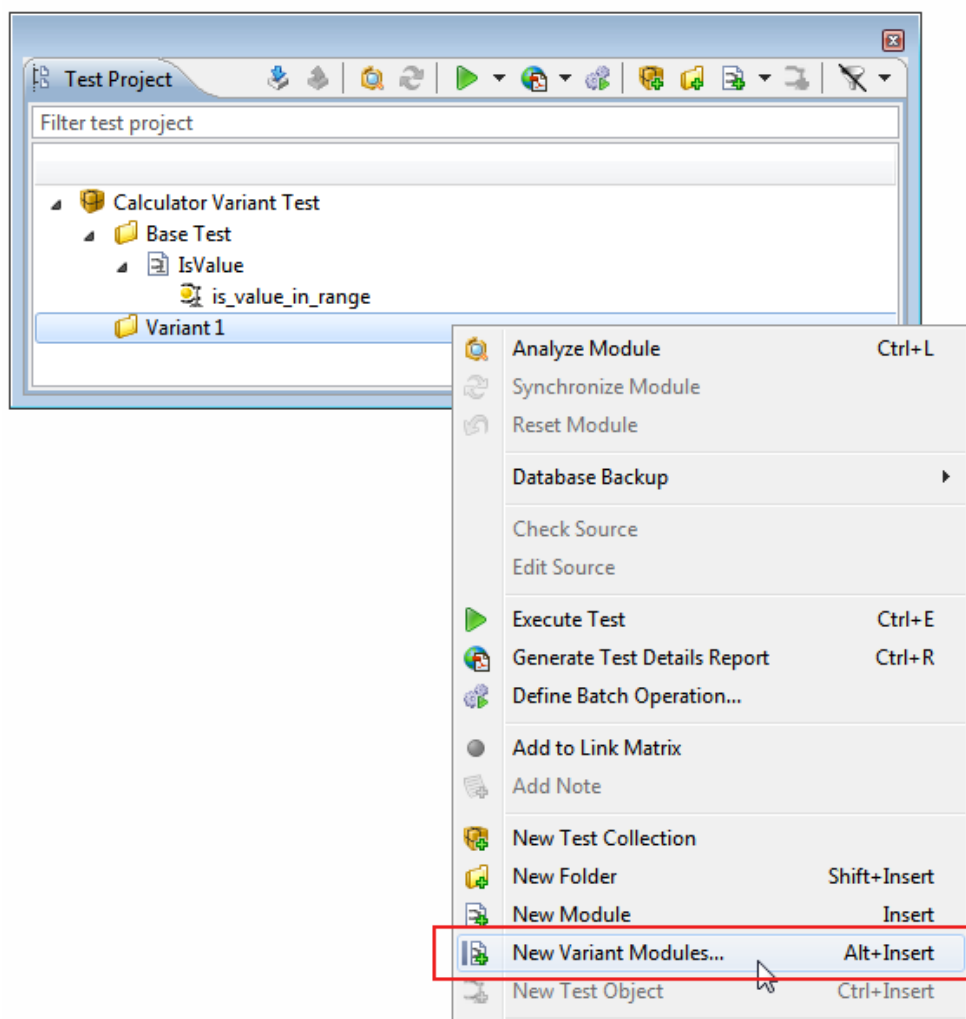

Figure 6.21: Create Variant Modules
- Right-click on the folder and select “New Variant Modules” from the context menu (see figure 6.21).